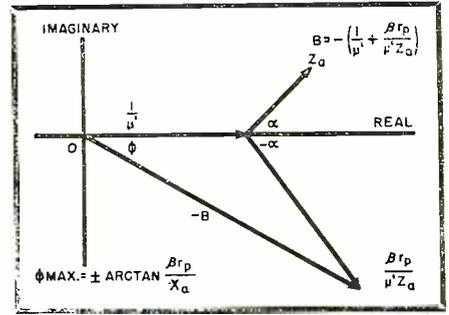

Fig. 4. Vector diagram showing requirements for oscillation.
for the purpose of drawing the vector diagram of B . To draw this diagram, it is necessary to select the load impedance as inductive or capacitive. If it is inductive, the vector representing Z_a will be in the first quadrant and if it is capacitive the vector will be in the fourth quadrant. This should be remembered since the vector diagram in Fig. 4 only considers Z_a to be inductive. To construct the vector $-B$ the vector $1/\mu'$ is drawn along the abscissa to the right and at the termination of $1/\mu'$ the vector $\beta r_p/\mu' Z_a$ is added, thereby giving $-B$ as the vector sum of the quantities within the parenthesis in Eq. (3). The final result may be summarized by the expression: